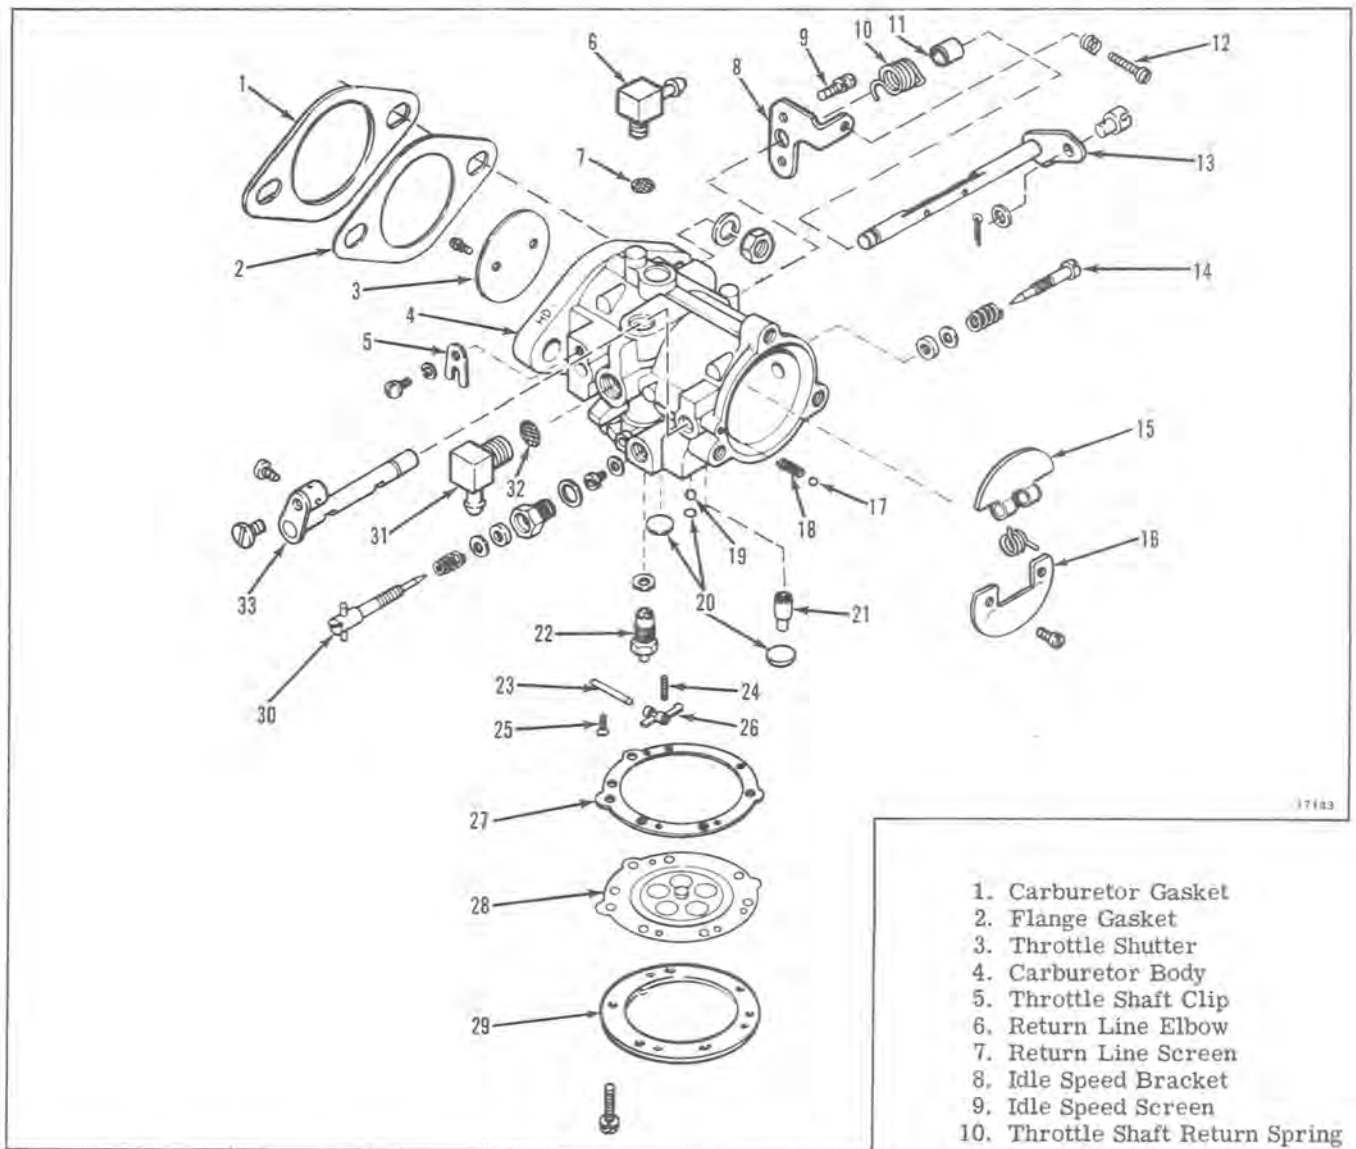

Figure 6-6
- a. Remove the idle speed mixture screw (14), washer and tension spring. Inspect for damaged threads (see Figure 6-6).
- b. Remove the metering diaphragm cover (29), the metering diaphragm (28), and gasket (27). Inspect the cover for nicks, dents, or cracks that might hamper operation. Inspect the metering diaphragm; the center plate must be riveted securely to the diaphragm and the diaphragm should be free of holes and imperfections. The gasket should be replaced if there are holes or creases on its sealing surface. The parts must be reassembled in the correct order. The gasket should be assembled onto the carburetor body casting first, then the metering diaphragm is assembled next to the gasket.
- c. Remove the hinge pin retaining screw (25), the hinge pin (23), inlet control lever (26) and the inlet tension spring (24). Use caution in removing these parts. Spring pressure may push the inlet control lever out of the casting. Inspect the parts for wear or damage. The inlet control lever must rotate freely on the hinge pin.
- e. Remove the inlet needle (22). Remove the inlet seat assembly using a 3/8-inch thin wall socket. Remove the inlet seat gasket.